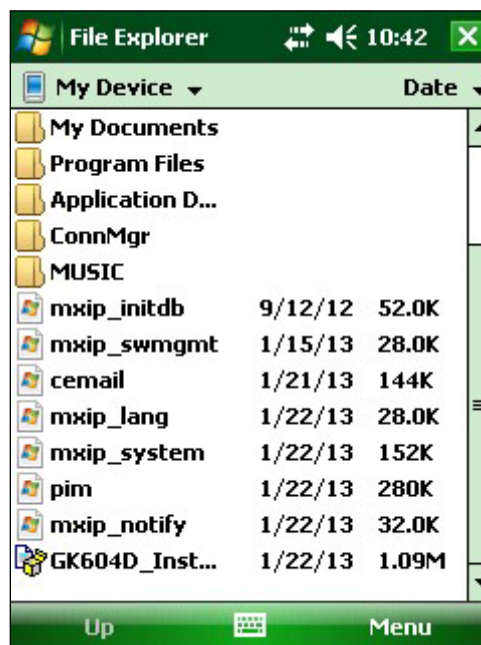

Figure 31 - GK-604D Installer at Root of HDD
- 4) Copy the file, “GK604D_Installer.CAB” from the installation folder to the HDD system root folder. From the HDD, navigate to the system root folder using File Explorer (Figure 31) and tap the file, “GK604D_Installer” to execute the installer.